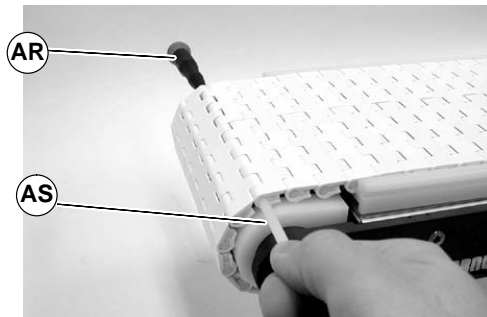

Figure 26
2. Insert screwdriver (AR of figure 26) into one side of belt, pushing rod (AS) out. Remove rod and separate belt.